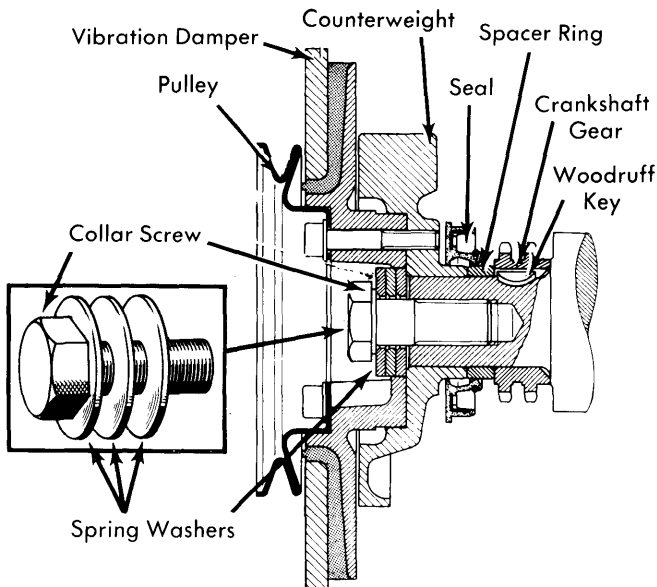

Fig. 6 Sectional View of Crankshaft Front Oil Seal
4) When installing vibration damper, use the collar screw (000 961 018 019) with three conical spring washers (127 993 00 26) instead of the collar screw with conical sleeve, used on the 300D models through Chassis No. 000984. See Fig. 6.